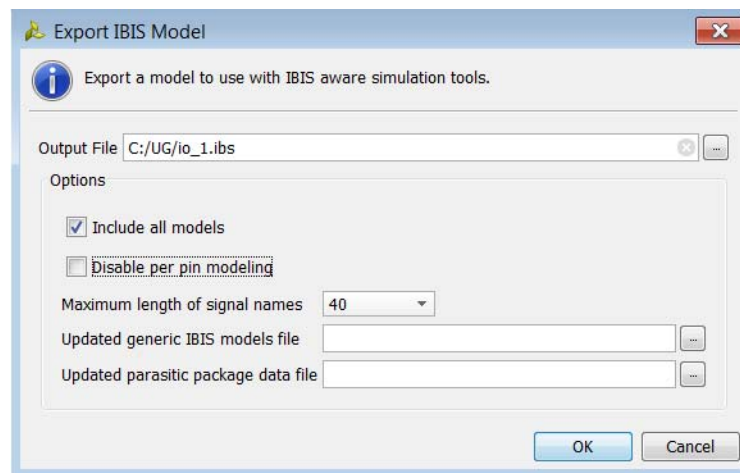

Figure 3-36: Export IBIS Model Dialog Box
2. In the Export IBIS Model dialog box (Figure 3-36), set the following options, and click **OK**: